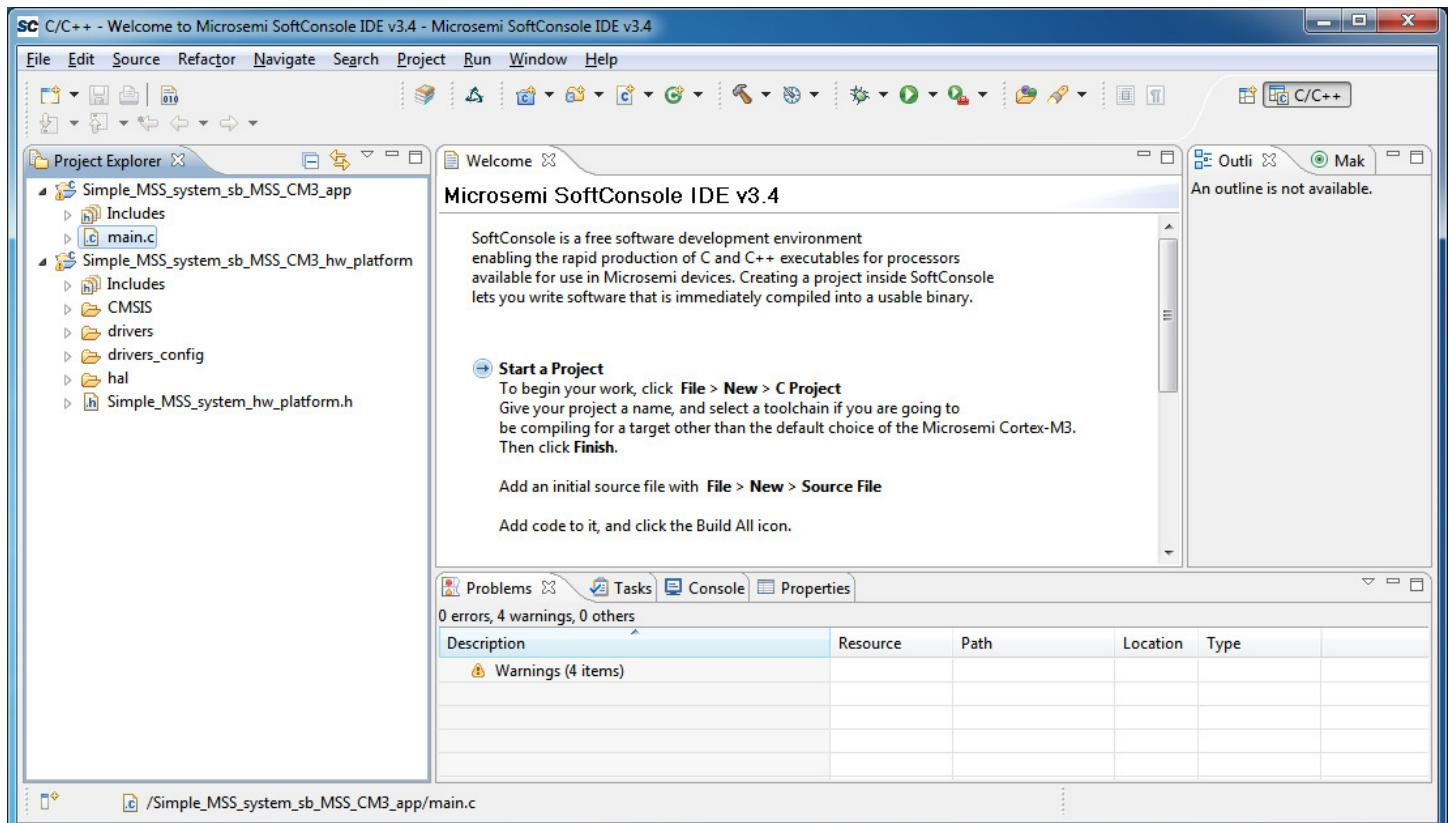

Figure 65 - SoftConsole projects
4. Expand the folders to become familiar with the contents of each project (Figure 65).